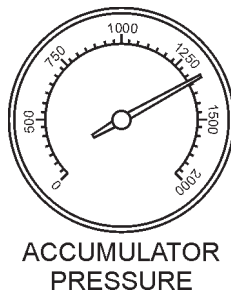

Figure 30. Accumulator Pressure Gauge
- The **Accumulator Pressure Gauge** (Figure 30) should read approximately 1750 pounds per square inch (psi)